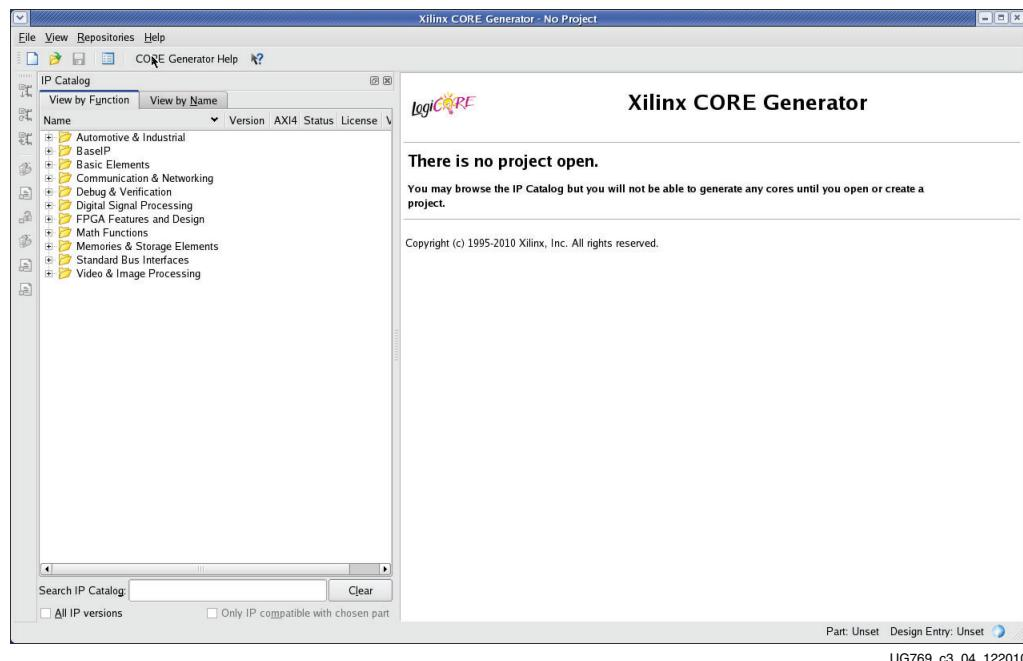
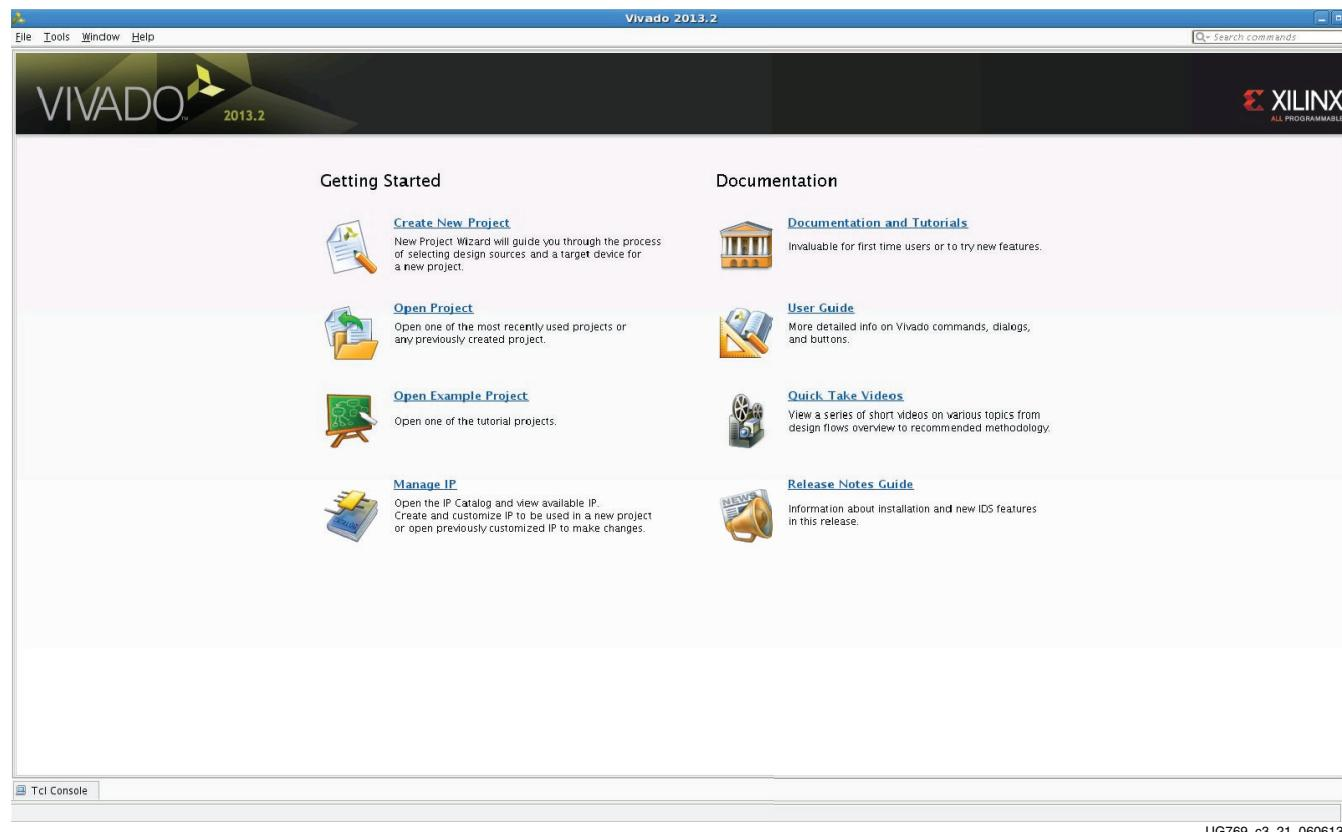

Figure 3-4: Starting a New Project
Figure 3-5: Starting a New Project (Vivado Tools)
3. Choose **File > New Project** (Figure 3-4 or Figure 3-5).